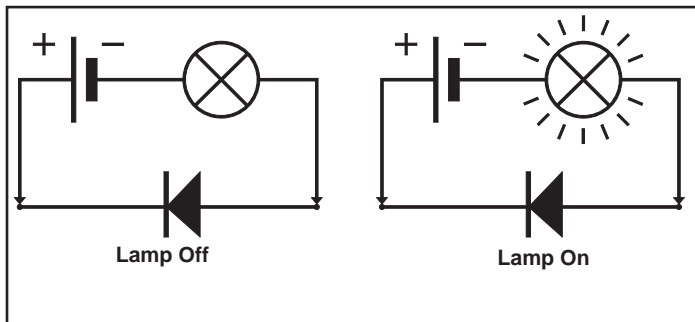

Figure 11 - Diode Test Procedure
2. This check can also be done using a 12 Volt battery and a light bulb as shown in Figure 11.